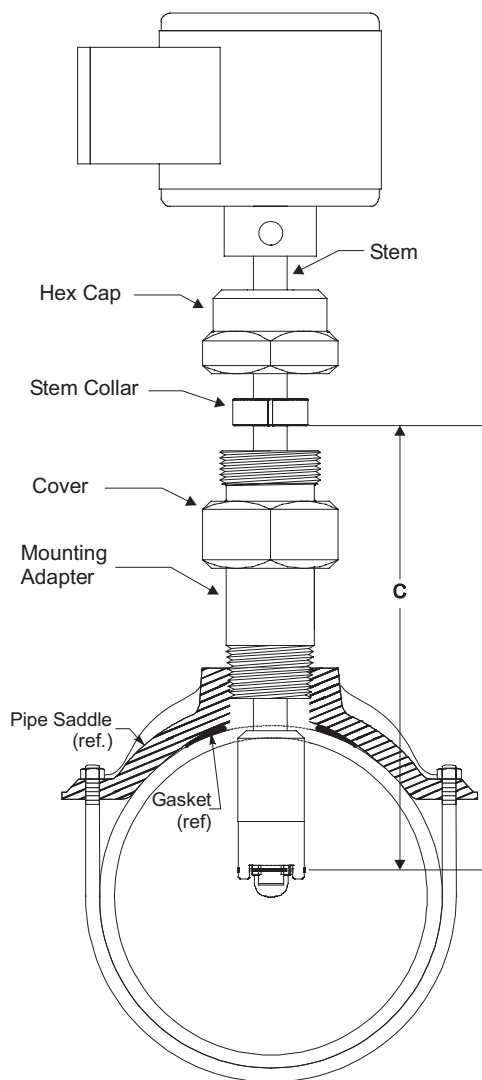

Figure 6: Dimension "C"
- c. Add this number to the reference measurement. The resulting number is dimension "C" in Figure 6 on page 7